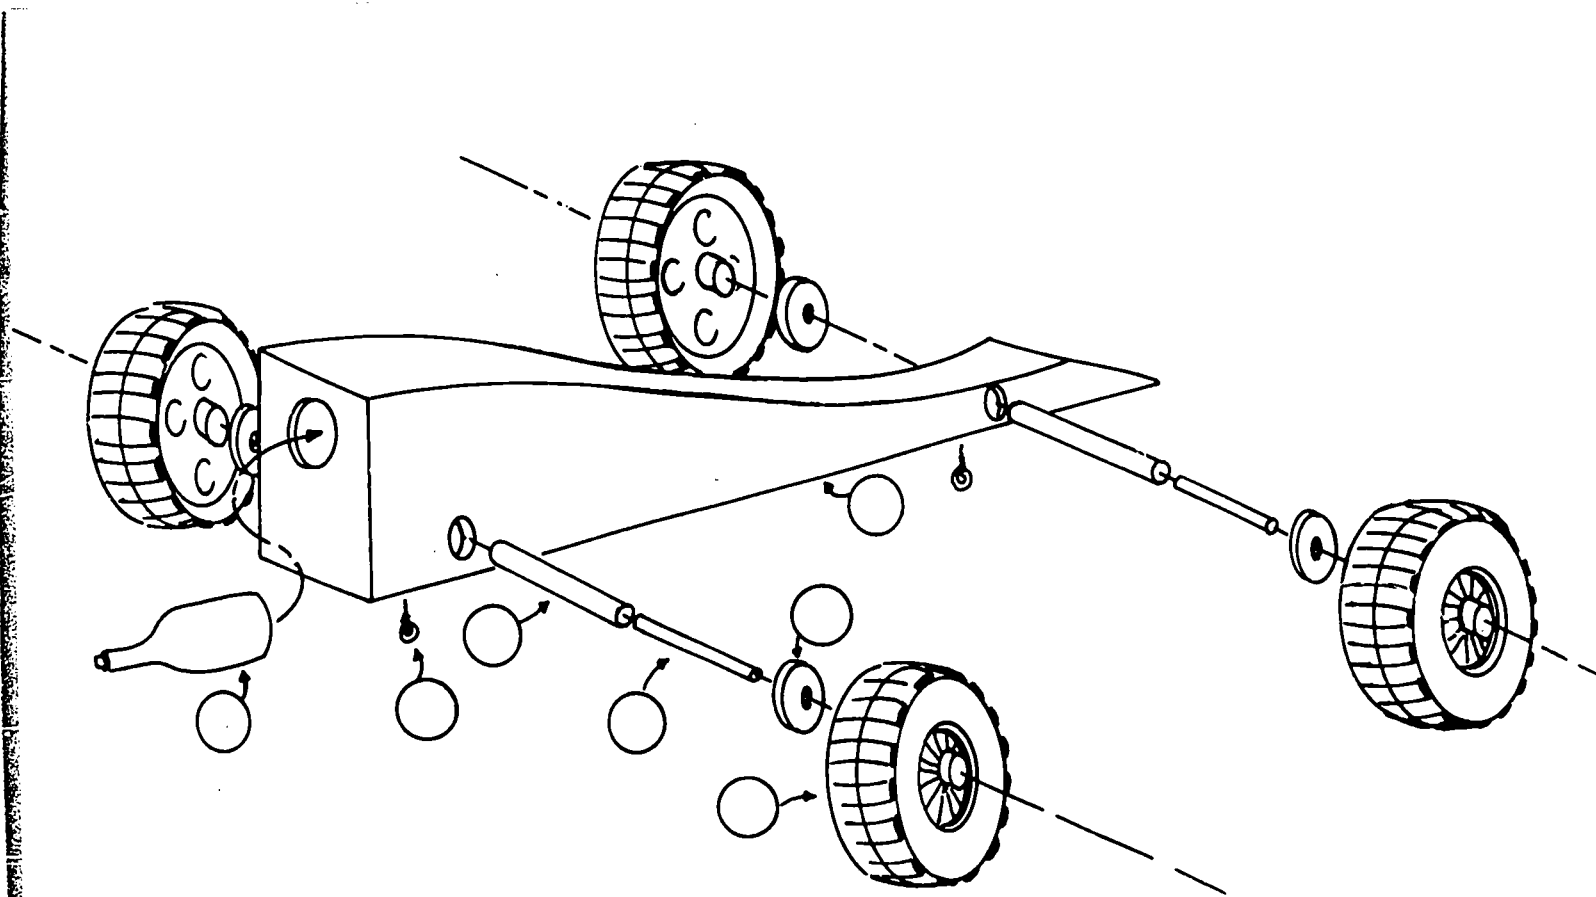

Fig. 14-1. Exploded View of Land Speed Record Assault Vehicle
2. Study Fig. 14-1. It is an *exploded* view of a LSRAV. You are to draw a view like this, *showing the LSRAV you designed*. Follow instructions in Steps 3 through 12.
9. Beside each part draw a circle about 3/8" in diameter, as on Fig. 14-1. These circles are called *balloons*.